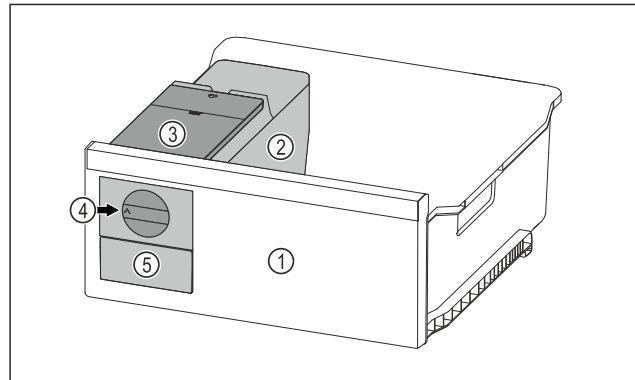

Fig. 71 Example illustration
- ▶ Turn the rotary knob Fig. 71 (4) clockwise as far as it will go.
- ▶ Ice cubes fall from the ice cube tray into the ice cube drawer Fig. 71 (5).